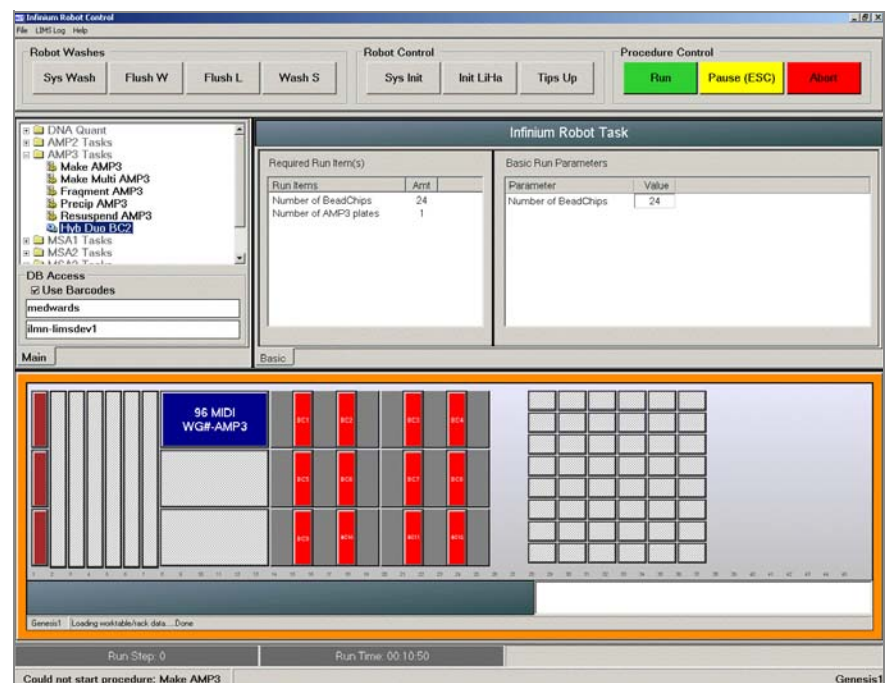

Figure 135 Hyb Duo BeadChip Screen
3. Place the Robot BeadChip Alignment Fixtures onto the robot bed according to the bed map (Figure 135). Do one of the following: